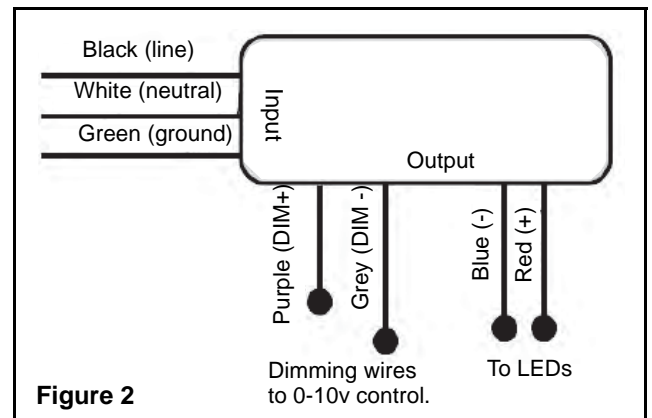

Figure 2
10. Make the proper connections: connect the white wire (neutral) and the black wire (line) to the building power supply. Connect the ground to the green wire. Input AC voltage is indicated on the unit (see fig.2).
11. If dimming control is required: connect the purple (DIM+) wire to the purple wire from the 0-10v dimming control and the grey (DIM-) wire to the grey wire from the 0-10v dimming control. If the dimming control is not required cap the individual wires with approved wire nuts (see fig.2).